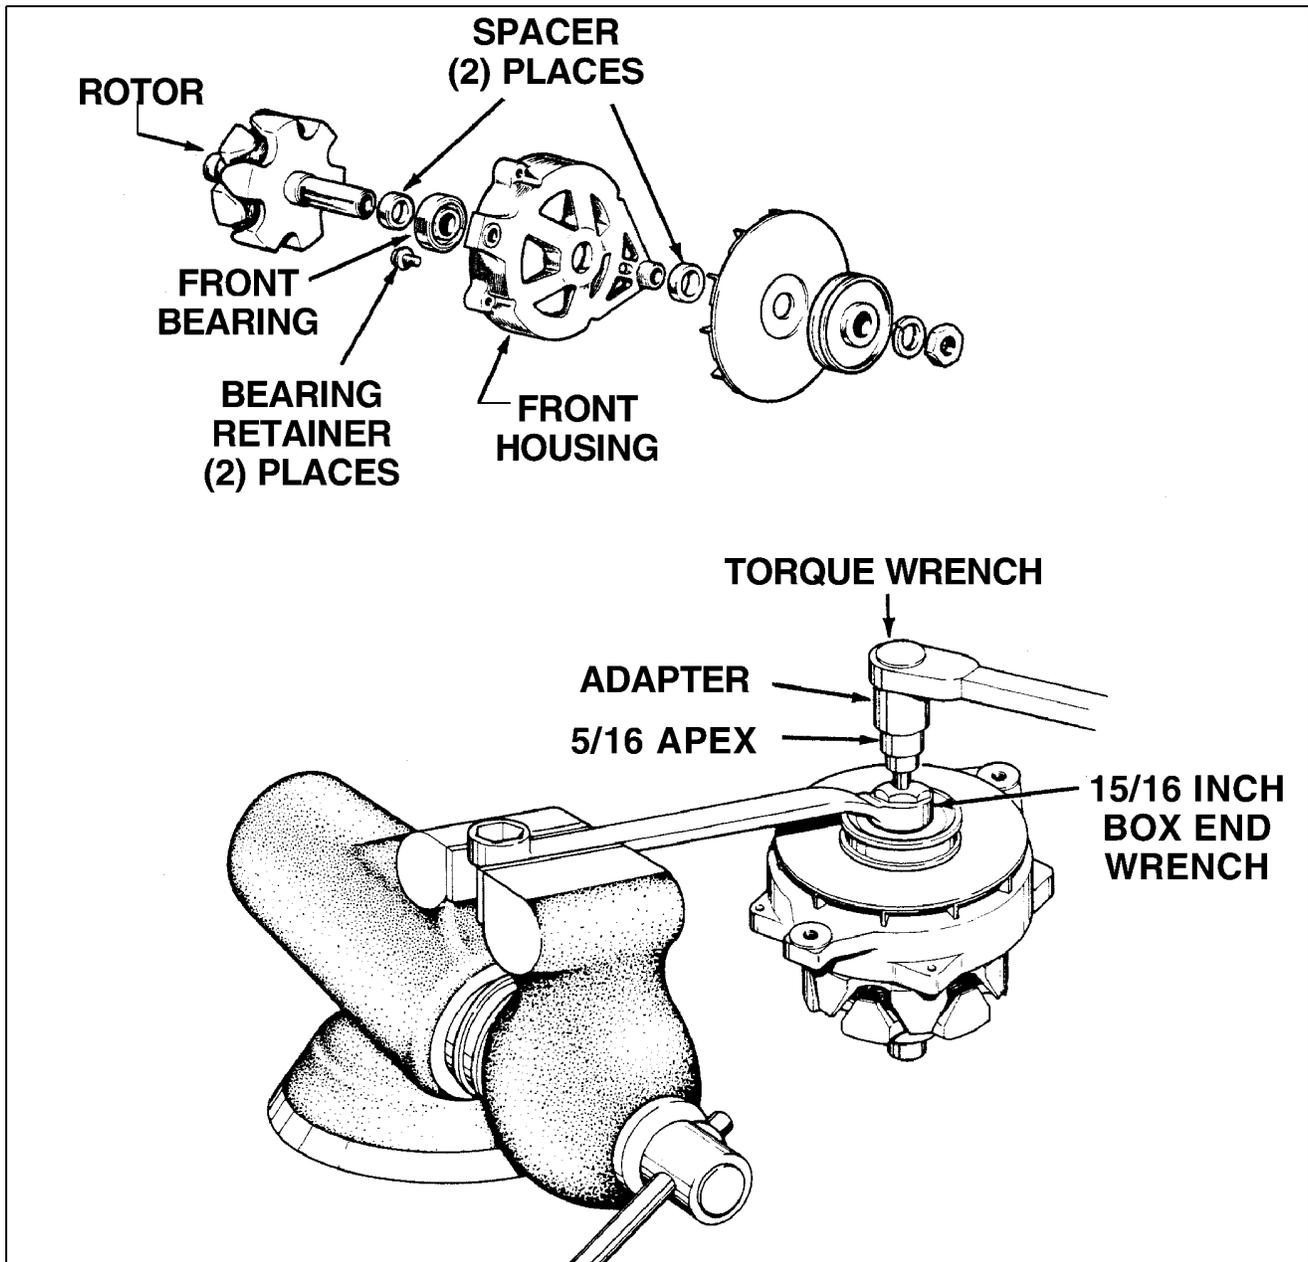

Figure 24-18. Front Housing Assembly
- h. Assembly Procedure (Refer to Figures 24-18, 24-19, 24- 20, and 24-21)
- (1) Clean all parts with a lint free cloth.
- (2) Position the front bearing in the front housing and install the bearing retainer screws.
- (3) Install spacer on rotor shaft and slide rotor shaft through housing and bearing.
- (4) Install spacer, fan, pulley, flat washer, lock washer and nut. Tighten the nut to 60-100 ft.-lbs. A special tool similar to Figure 24-18 is required to torque nut.
- (5) If the rear bearing was removed, press a new bearing into place from inside the housing. Apply pressure to the outer race only. Install dust cover over bearing end of housing.
- (6) Install radio suppressor capacitor in rear of housing and install retainer screw.
- (7) Install springs and brushes into brush holder. Install short length of 0.040 wire through brush holder to retain brushes in place. Wire should be long enough to extend through hole in housing for removal after housings are assembled.
- (8) Install two retainer screws in brush assembly and housing. Hold down on brush assembly while tightening screws, to prevent breaking brush assembly attachment brackets.
- (9) Install insulator on BAT post of rectifier assembly and install insulators (2) in place in the rear housing for mounting bolts in positive BAT side of rectifier.
- (10) Carefully install rectifier and stator into rear housing. Ensure insulators are in place. Install BAT post insulator and nut and GRD post retainer and nut, finger tight.